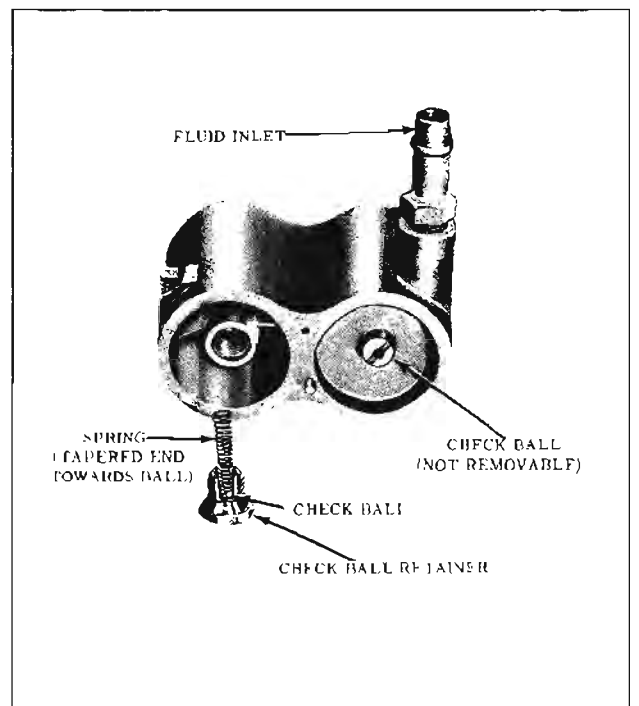

Fig. 9-114 Fluid Metering Valve
9. Remove fluid outlet check ball retainer, then remove check ball and spring. (Fig. 9-114)
1. Install check valve spring, ball and retainer. (Fig. 9-114)